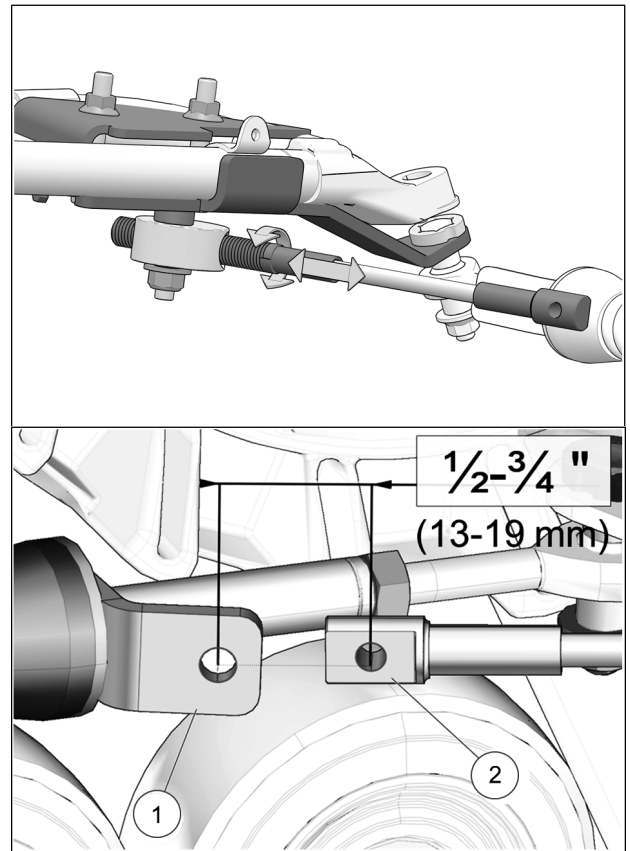

Fig. 27
17. Turn the vehicle's steering wheel to its maximum point of travel on the left. While maintaining pressure on the steering wheel, turn threaded rod to adjust length of cable so that the cable end hole (1) is located 13 to 19 mm [$\frac{1}{2}$ to $\frac{3}{4}$ in.] short of the mounting hole on the support plate (2). See Fig. 27